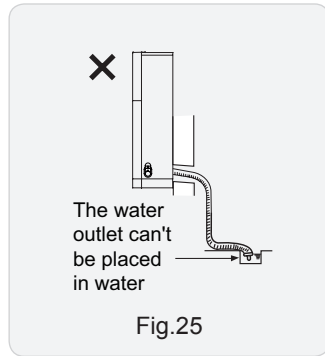

Fig.25
- (3) The water outlet can't be placed in water in order to drain smoothly.(As show in Fig.25)